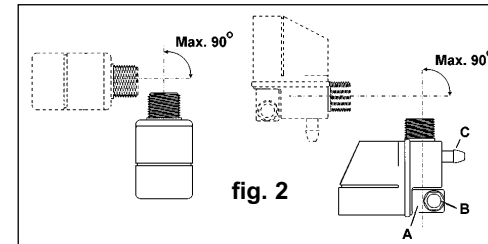

fig. 2
- 3.2.2. If remote mounting ensure that valve is below discharge point and that the pipe run will allow air bubbles to flow up from valve to system. Connecting pipe should be of 3/8" bore, or larger. Orientate the valve within the limits shown in fig.2.
- 3.2.3. The outlet (fig.2.C) should be connected to a condensate drain using 8 - 10 mm bore flexible tube.